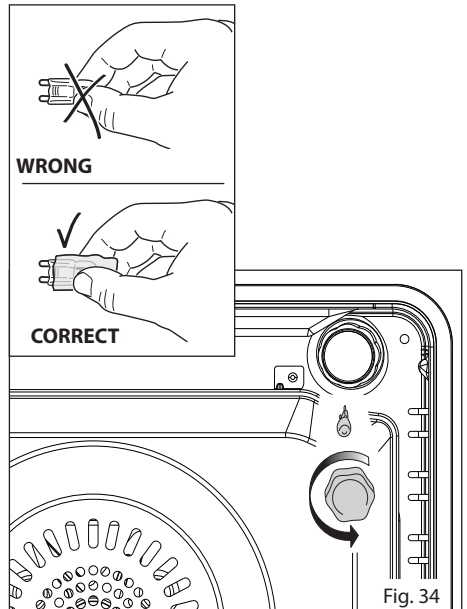

Fig. 34
- Remove the protective cover (fig. 34);